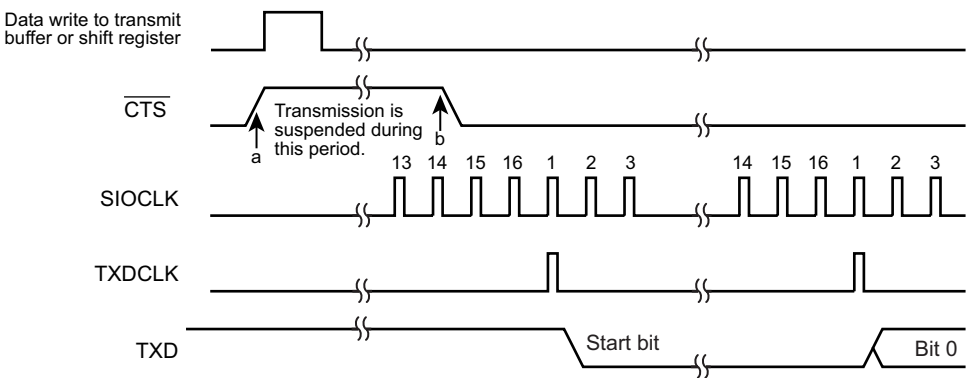

Figure 10-9 $\overline{\text{CTS}}$ Signal timing
- Note 1: If the $\overline{\text{CTS}}$ signal is set to "H" during transmission, the next data transmission is suspended after the current transmission is completed.(Point "a" in Figure 10-9)
- Note 2: **Data transmission starts on the first falling edge of the TXDCLK clock after $\overline{\text{CTS}}$ is set to "L".**(Point "b" in Figure 10-9)